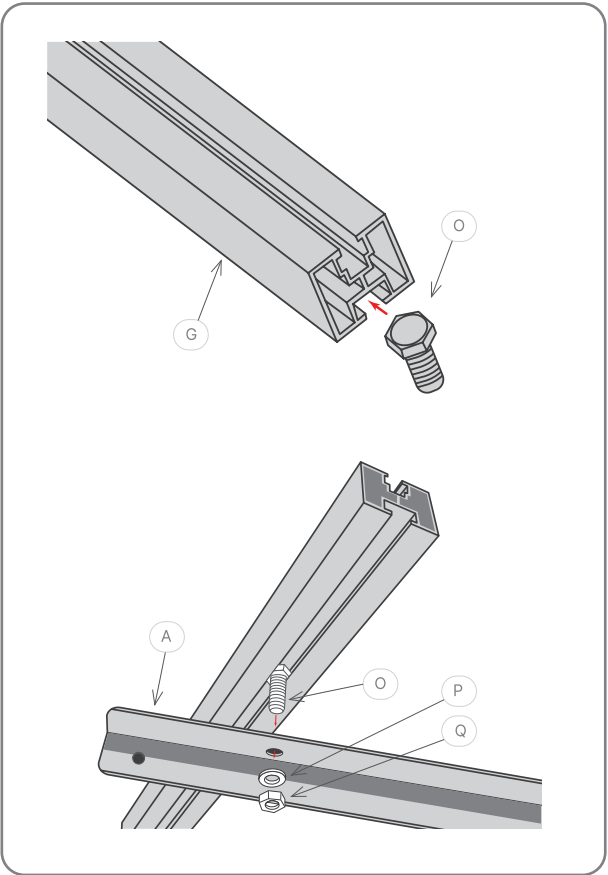

Figure 6. Installation of Carrier and Tilt Bracket.
Install the Solar Panel Profile (G) using (O), (P), and (Q), refer to Figure 6.